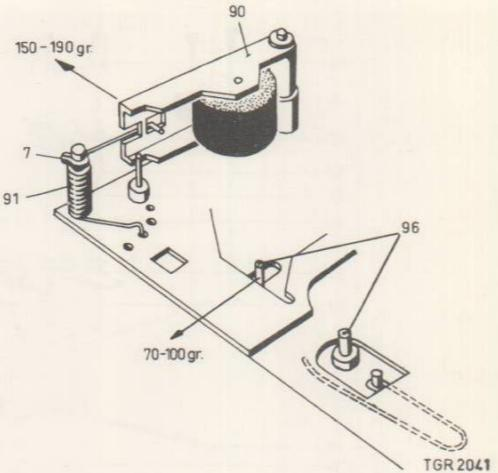

Fig. 4
Pressure roller lever, see Fig. 4
Checking the winding friction, item 96, see Fig. 4
- If the current increase is less than 8 mA, the pressure of the pulley of idler bracket 96 onto the right-hand turntable must be reduced to min. 70 grammes (see Fig. 4).
- If the current increase is more than 16 mA, the pressure must be increased to max. 100 grammes (see Fig. 4).